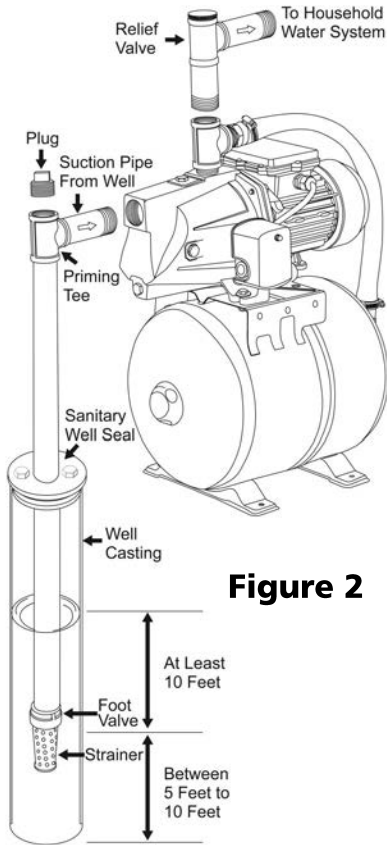

Figure 2
3. Install a priming tee with a plug on the suction pipe from the water source as shown in Figure 2. Install a union to allow the pump to be easily disassembled from the piping for easy servicing. ***Make sure Teflon tape or pipe joint compound is used on all joints. The suction pipe should be at least 1 1/4"***